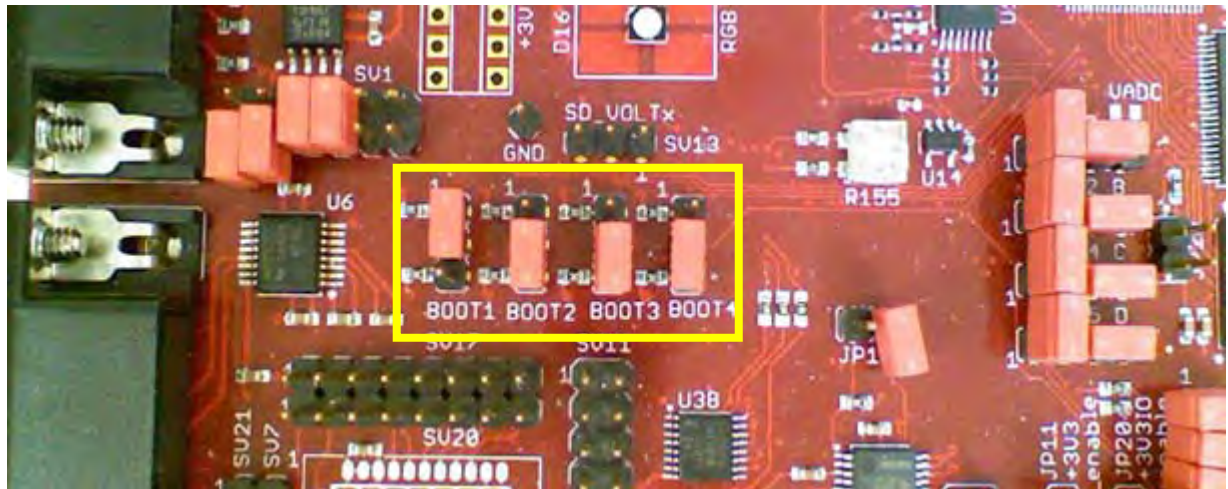

Fig 1. Hitex Rev A4 boot mode jumper location (SPIFI boot mode shown)
- Fig 1. Hitex Rev A4 boot mode jumper location (SPIFI boot mode shown)4